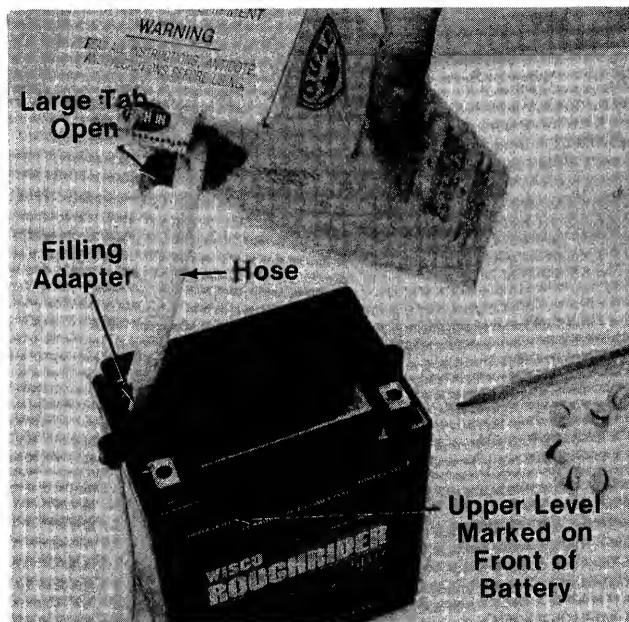

FIGURE 10.
6. Pull out hose from package and hold upright. Squeeze hose forcing all acid back into package. Cut off tip of hose and insert filling adapter. See figure 10.
7. Fill each cell to upper level marked on front of battery. Reassemble fill caps to battery. See figure 10.